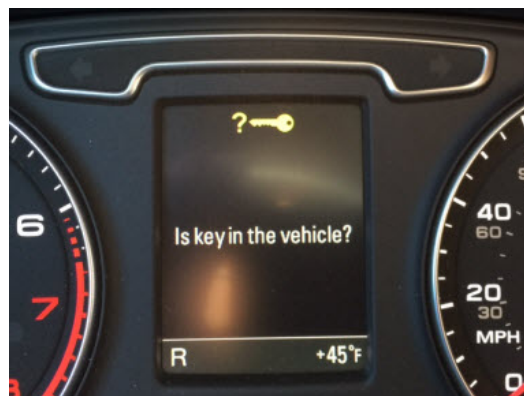

Figure 1. "Is key in the vehicle?" message.
- The message "Is key in the vehicle?" is displayed in the information panel even though the key is in the vehicle (Figure 1).